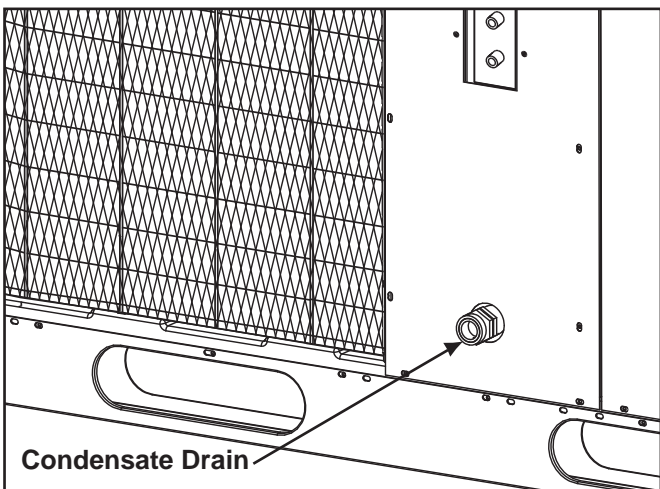

Figure 4. Condensate Drain.
**Condensate Drain** — Condensate is removed from the unit through the 3/4" female pipe fitting located on the front side of the unit. (See **Figure 4**.) Install a 2 inch deep condensate trap in the drain line of the same size and prime with water.